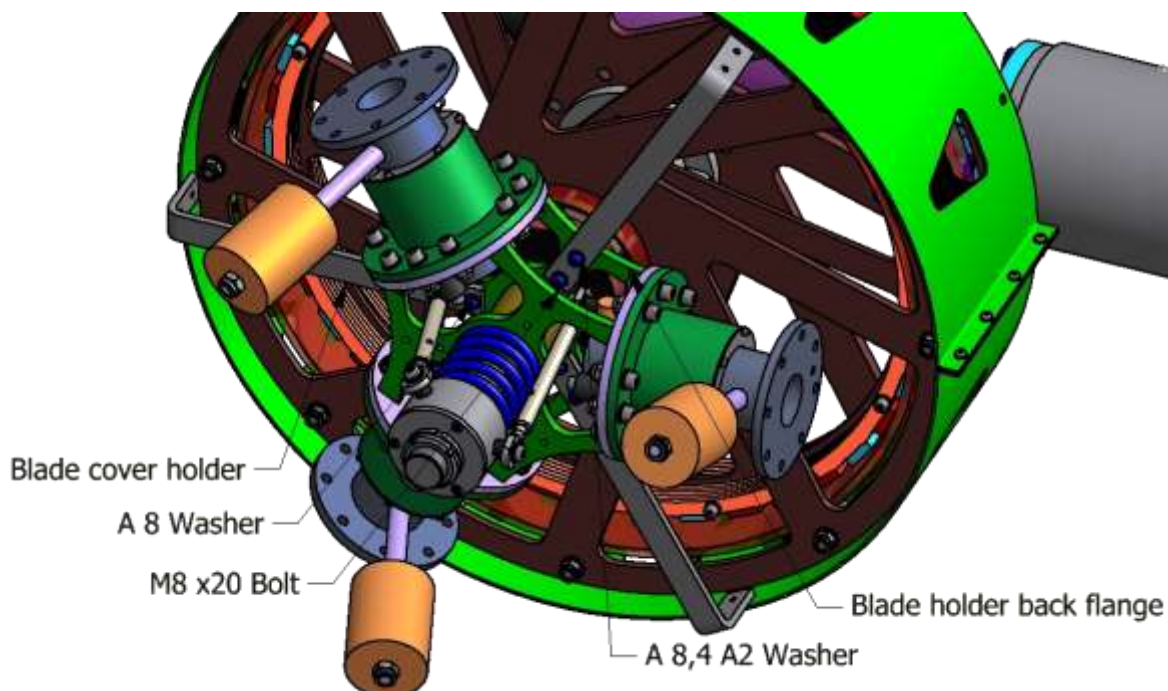

Figure 18 – Placing cover holders
1. Fit six M8 x 20 bolts with a spring washer and then a regular A2 washer and place the bolts to join the three blade cover holders to the blade holder back flange (see Figure 18). Use WD-40 oil to lubricate the bolts before placing them into the threaded holes. Fix the bolts with a torque of 27 Nm. **TIP!** Use the holes in the blade holder front flange to do the initial fixing with a hex key.